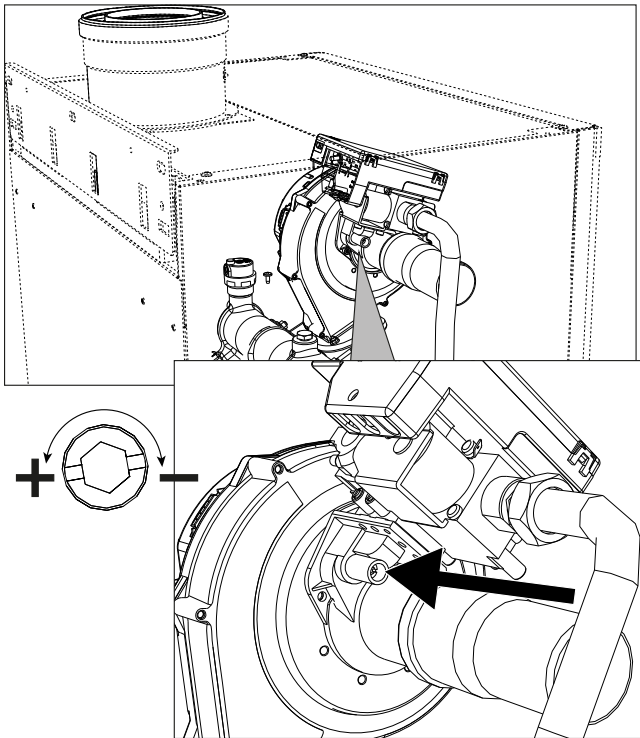
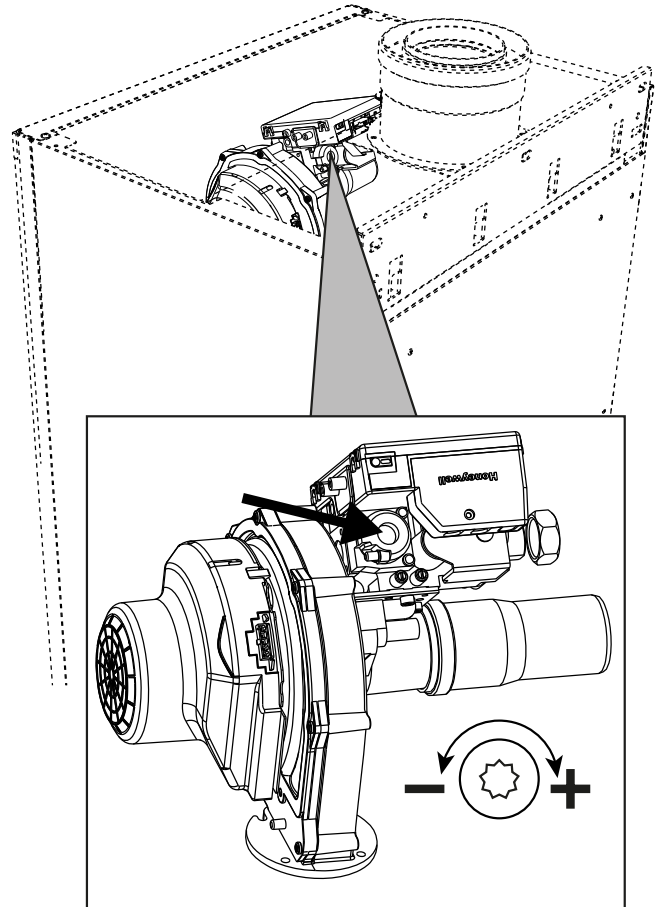
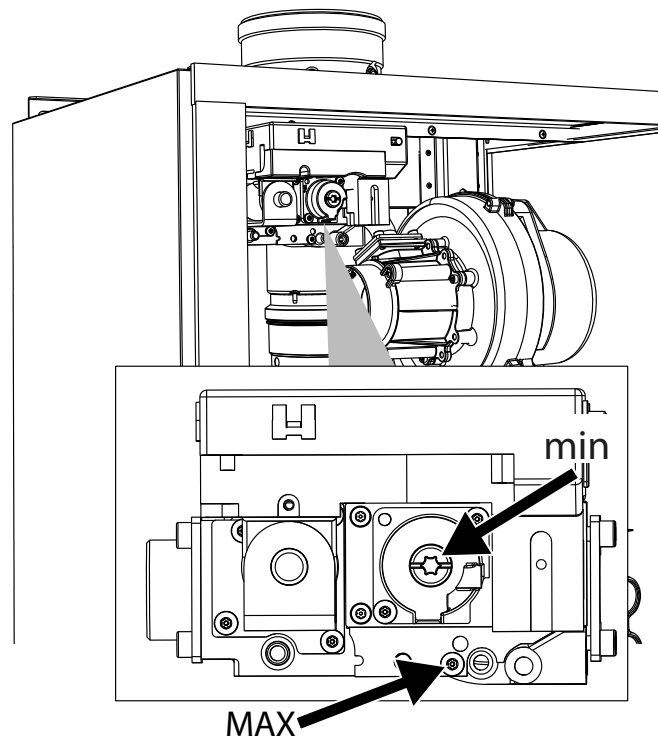

fig. 73- Maximum adjustment, models W 60 and W 80
fig. 74- Minimum adjustment, models W 60 and W 80
fig. 75- Maximum and minimum adjustment, models W 99, W 120 and W 150
- If the values are different from those indicated, adjust the CO₂ with the maximum adjustment screw to the indicated CO₂ values. See **fig. 73** for models **W 60** and **W 80** or **fig. 75** for models **W 99**, **W 120** and **W 150**.
- If the CO₂ values are different from those indicated, gently adjust the minimum "OFFSET" screw, checking that the CO₂ is correct. See **fig. 74** for models **W 60** and **W 80** or **fig. 75** for models **W 99**, **W 120** and **W 150**.